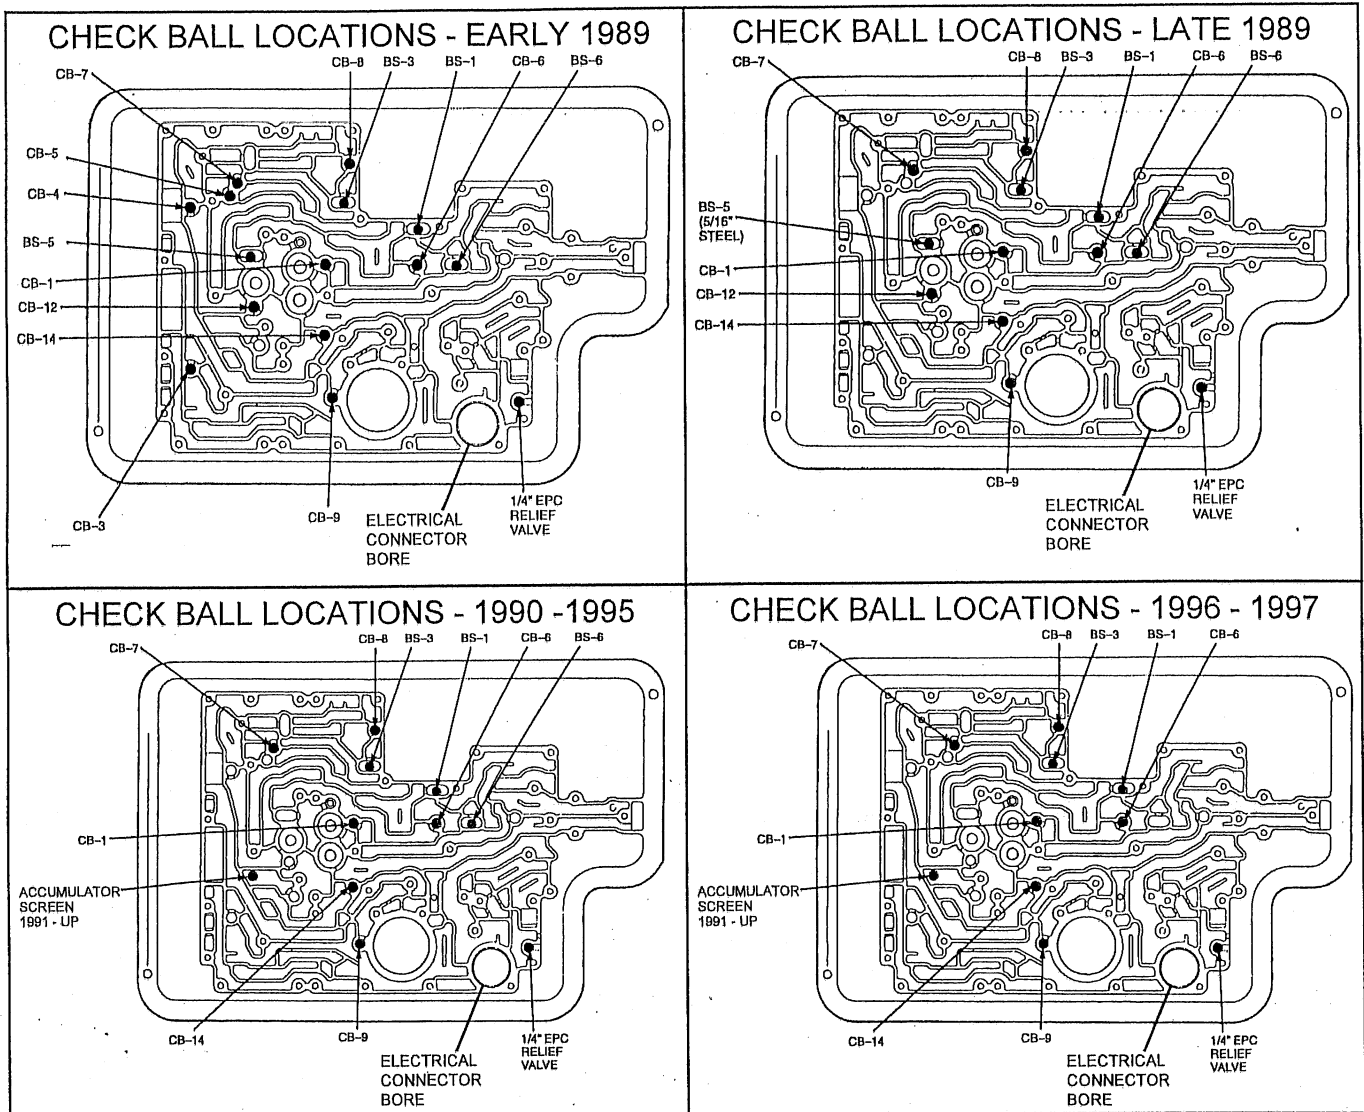

Figure 3. Case Check Ball Placement
Step 7. Word of caution. Next you will remove the separator plate above which are located the case check balls (See Fig. 3), one of which is spring loaded. Be very careful when lowering the separator plate from the case so as to retain all of the check balls and keep them in their respective position
Step 12. Install the Spring that holds the 1/4" Steel EPC Check Ball and the spring loaded Accumulator Screen ('91 up) into the case (See Fig. 3) holding them in place with a daub of petroleum jelly. The spring end of the Accumulator Screen goes toward the case.
Step 13. Check the gaskets specified for your model year (See Fig. 10) by placing them against the spacer plate, one at a time, to verify that none of the spacer plate holes are blocked by the gasket. Apply several dabs of petroleum jelly to the spacer plate to hold the gaskets in place. Stick the gaskets on the appropriate sides of the spacer plate. Referring to the appropriate model year Check Ball placement illustration (See Fig. 3) place a check ball on each required check ball hole location holding them in place with a daub of petroleum jelly. Notice that most all of the case Check Balls are 5/16" dia. rubber, EXCEPT for the 1/4" dia. steel EPC Check Ball and the 5/16" dia. Steel Check Ball used only in Late 1989.
Step 17. Coat the case electrical connector bore (See **Fig. 3**) with Silicone Brake Caliper Grease (if unavailable use petroleum jelly). Guide Solenoid Body Assembly over stud and push up against case. Install and torque the nine (9) Torx screws (T30 driver) and one nut (10mm socket) to 9-11 Nm (80-100 lb*in).